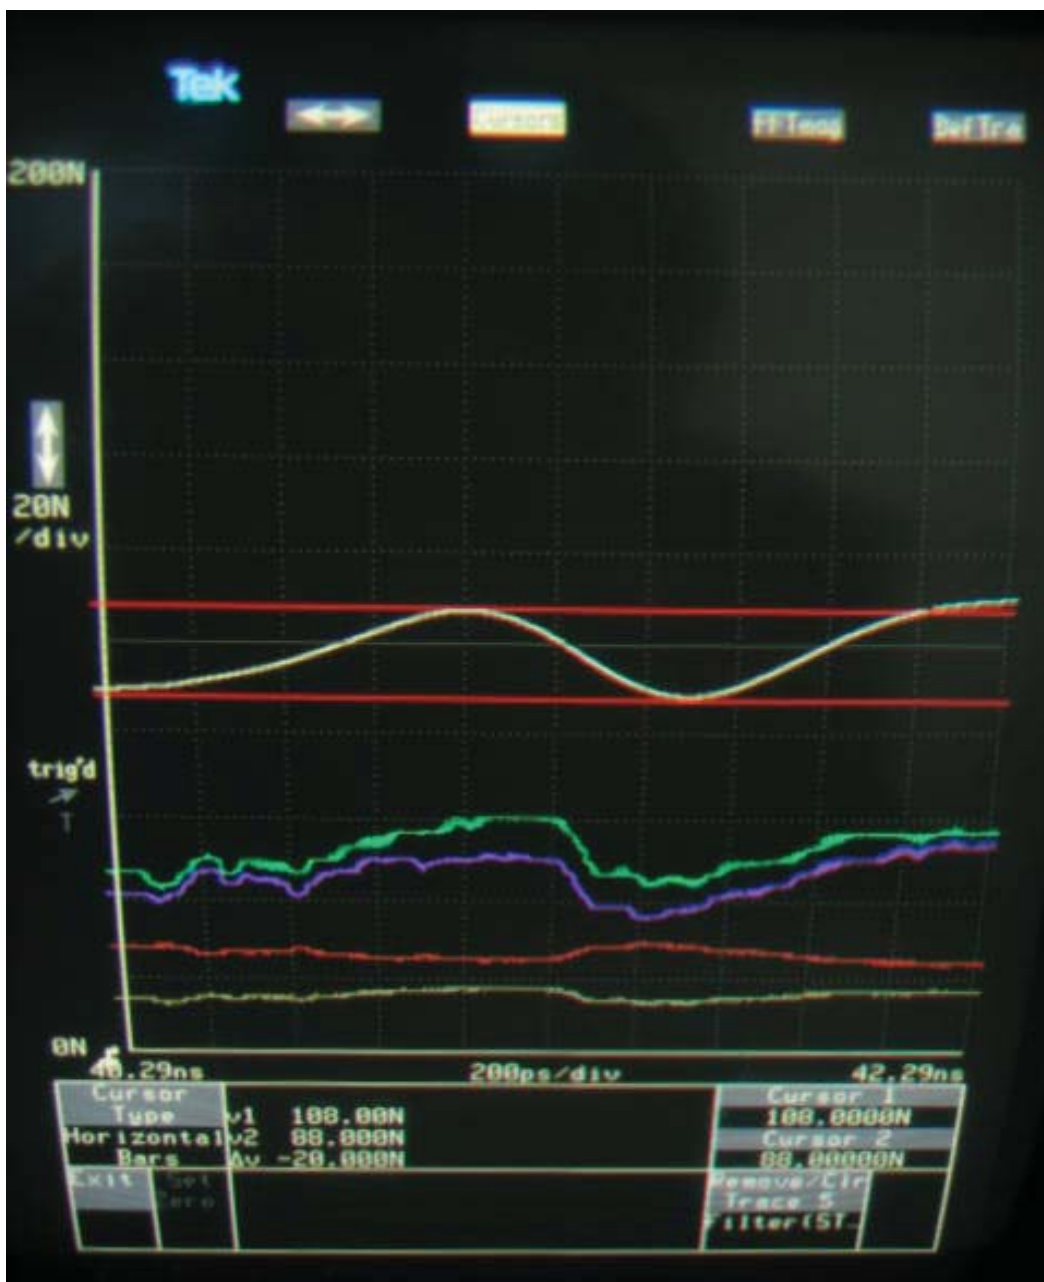

Figure 1: TDR D± to D± and L/R USB Switch Connected to Audio Switch, V_{DD}=3.3V, 25°C
- TDR passes the USB 2.0 TDR Specification. The impedance is ranging from 88-ohm to 110-ohm. Please refer to Fig 1.